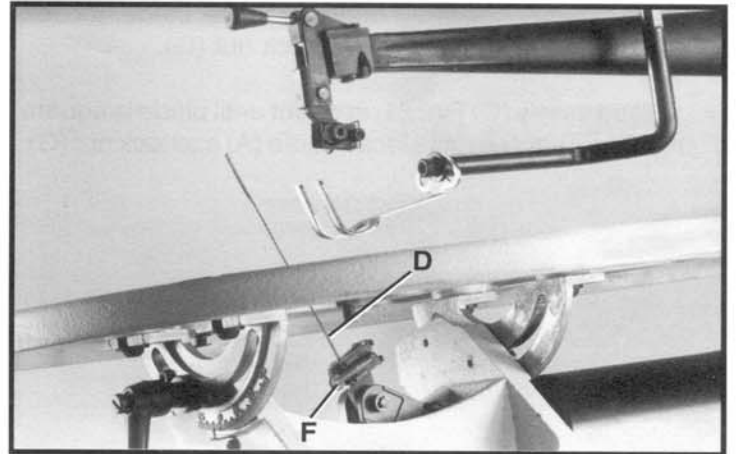

Fig. 27
4. Push lower blade holder locking lever (F) Fig. 27, to the rear. This will automatically release blade (D) from lower chuck.